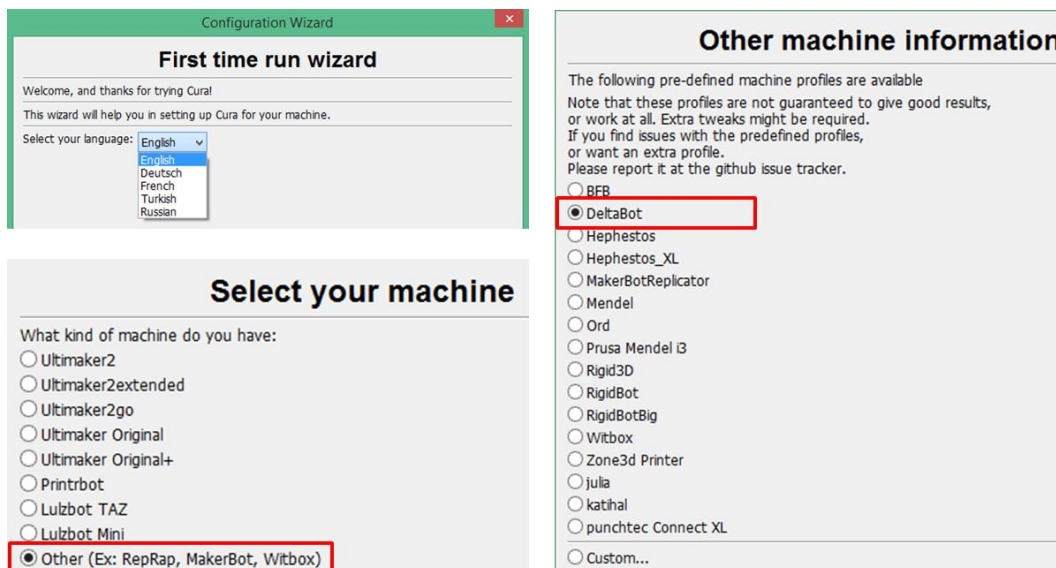

Fig. 40
Step 2. Configuration. When finishing the installation and opening 'Cura' for the first time, a configuration dialogue would appear. Choose the 'language' that suits you and click 'Next' if necessary. When come across 'Select your machine', please choose 'Other' and hit 'Next' and choose 'DeltaBot' in the following dialogue, which is shown step by step in Fig. 40. Lastly, click 'Finish' to complete the configuration and enter the home interface of Cura.